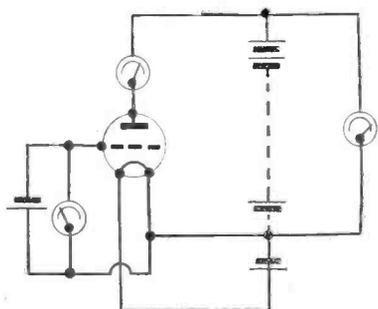

Fig. 1.—Theoretical diagram of the basic valve tester. Practical diagram appears on page 66.
L.T., H.T. and G.B. may be applied. Meters will have to be used to ascertain the exact voltages applied and the anode current which is flowing, and this is shown in Fig. 1. The meter in the L.T. circuit may, of course, be dispensed with provided that it is reasonably certain that the L.T. supply is more or less correct. Similarly, the H.T. voltmeter may be omitted if a reliable H.T. source is used, such as a new tapped H.T. battery or mains unit delivering the necessary output. Valves are rated with a given H.T. voltage, and this should be selected when a valve is being tested. Thus, the only essential meters are for measuring the change in the grid-bias supply and for the change in anode current. A single dual-purpose meter could be used, of course, with plugs and jacks or switches to make the necessary change in position in the circuit, and this is one of the methods adopted in certain commercial apparatus. Another method which is often employed is to use only the anode current meter, and to select H.T., L.T. and G.B. voltages from a mains supply unit by means of a switch. The mains are reasonably constant, and the ratio of the voltages required in relation to the mains supply are such that the slight changes in main voltage make very little difference to the secondary voltages, and